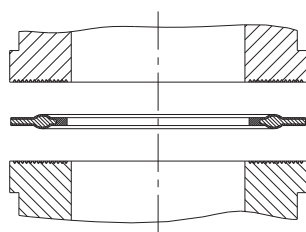

Fig. 2
- The pump is supplied with PTFE moulded composite seals with a flare, which are used for the pump connections. They seal the connections between grooved pump valves and the grooved inserts from ProMinent (Fig. 2).